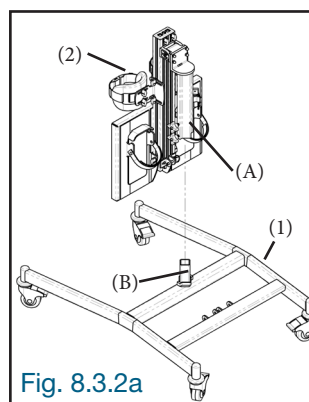

Fig. 8.3.2a
8.3.2a Slide the profile (A) of the frame (2) onto the tube (B) of the base with wheels (1) (Fig. 8.3.2a).